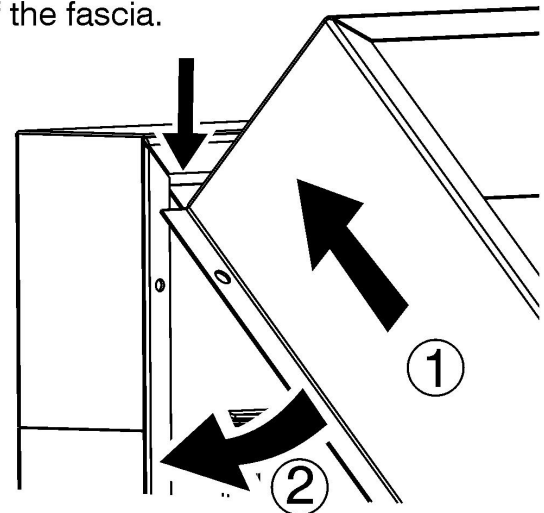

Figure 8. Fitting the spacer frame to the Serenity fascia
**Serenity model** - Locate the top of the spacer frame behind the top flange of the fascia (See figure 8). Using the four screws provided, fix the spacer frame to the fascia.